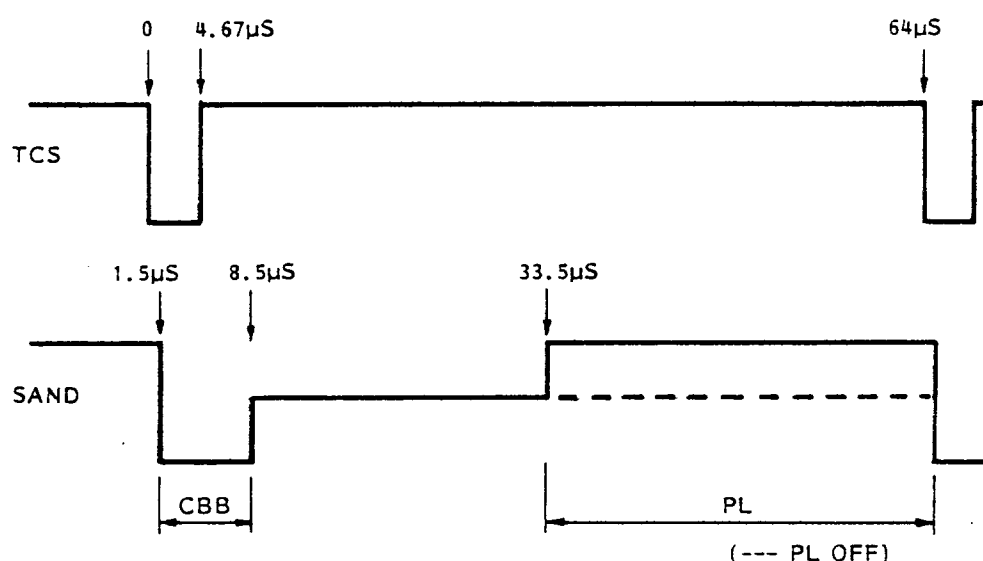

Fig 3.10 - Timing Waveforms.
The SAND output (Fig 3.10) on pin 11 of CCT is a three-level signal containing the phase lock (PL) and colour burst blanking (CBB) components for use in VIP2. The PL part of SAND is turned off under noisy signal conditions to allow the VIP2 phase-locked oscillator to free run.